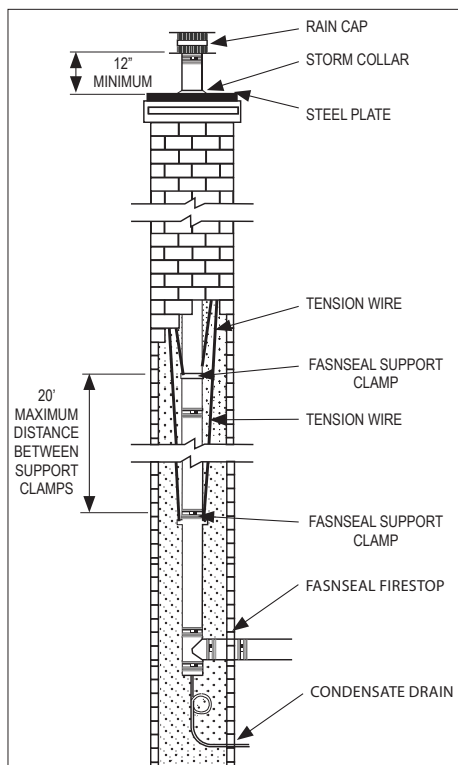
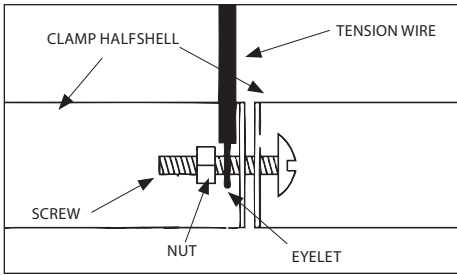

Figure 7
Figure 9
As an alternative method to supporting installations that pass through a masonry chimney, a series of tension wires and FasNSeal support clamps can be used. Refer to **Figure 7** for a typical installation. It is critical to use enough clamps and proper bracing to safely support the weight of
2. Install a FasNSeal support clamp at the base of the vent stack. The first support clamp should be located directly below the upper joint on the bottom most straight vent length (**Figure 7**). Refer to **Figure 9** for the proper method of securing tension wires to the FasNSeal support clamp. Do not fasten the cable between the clamp half-shells. This will prevent the clamp from gripping the vent stack properly